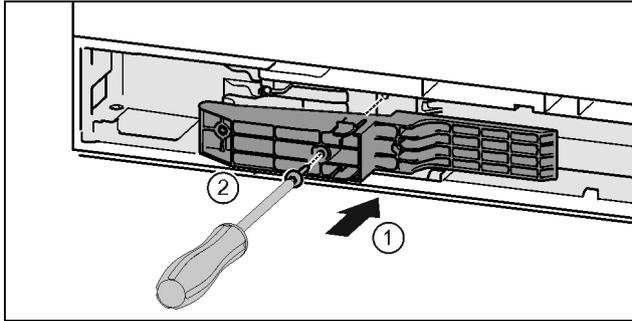

Fig. 36 *
- ▶ Insert the adapter into the recess on the handle side. Fig. 36 (1)*
- ▶ Use screwdriver T15 to tighten the screws. Fig. 36 (2)*